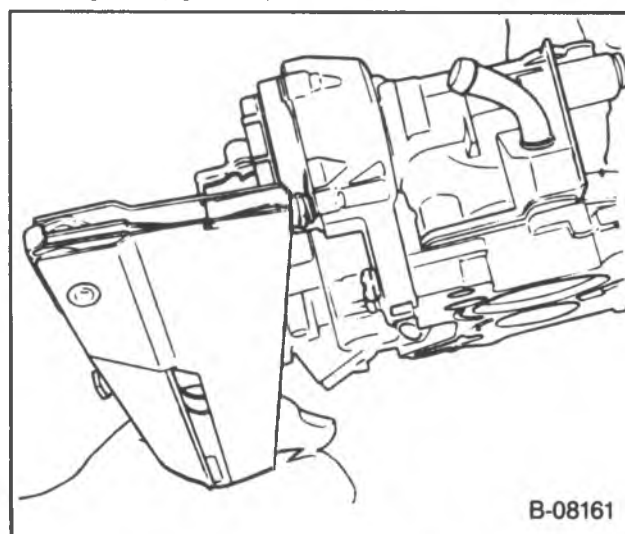

Figure 10 — Installing the Choke Coil Rivets
Install or Connect (Figure 10)
2. Retainers and rivets using a suitable blind rivet installing tool (figure 10).